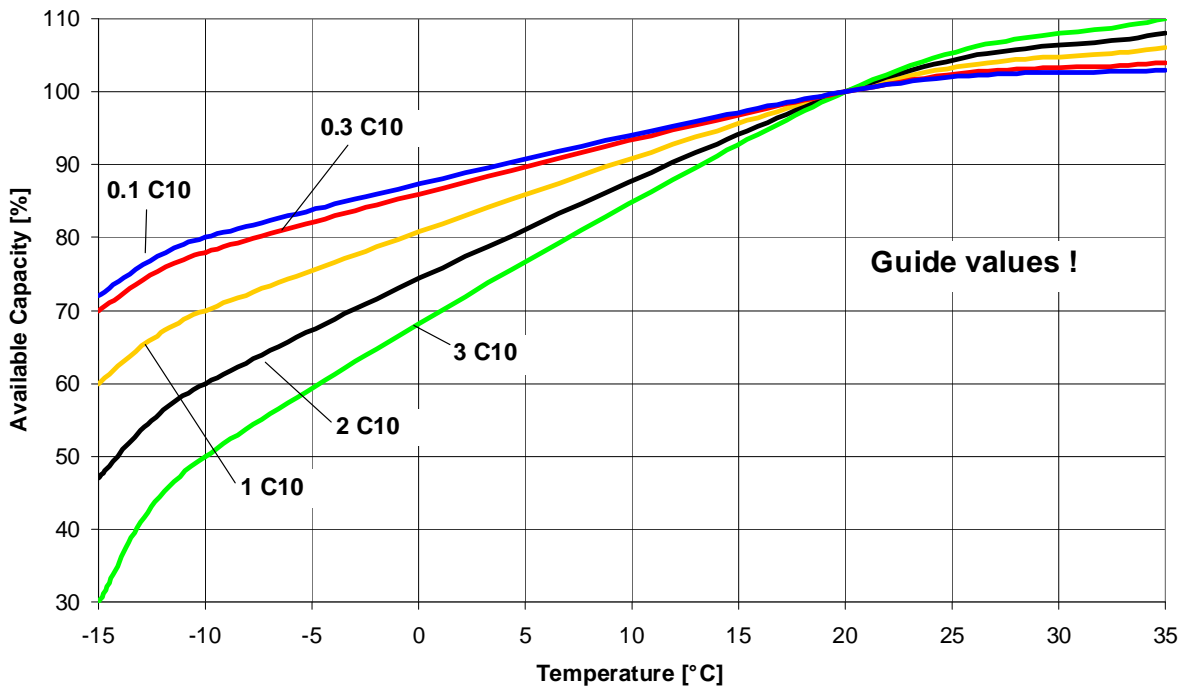

Fig. 13: Marathon – Available Capacity vs. Temperature at different Discharge Rates (Current value = Ah-value as multiples of C_{10})
- The battery temperature influences the capacity as shown in fig. 13 and 14.